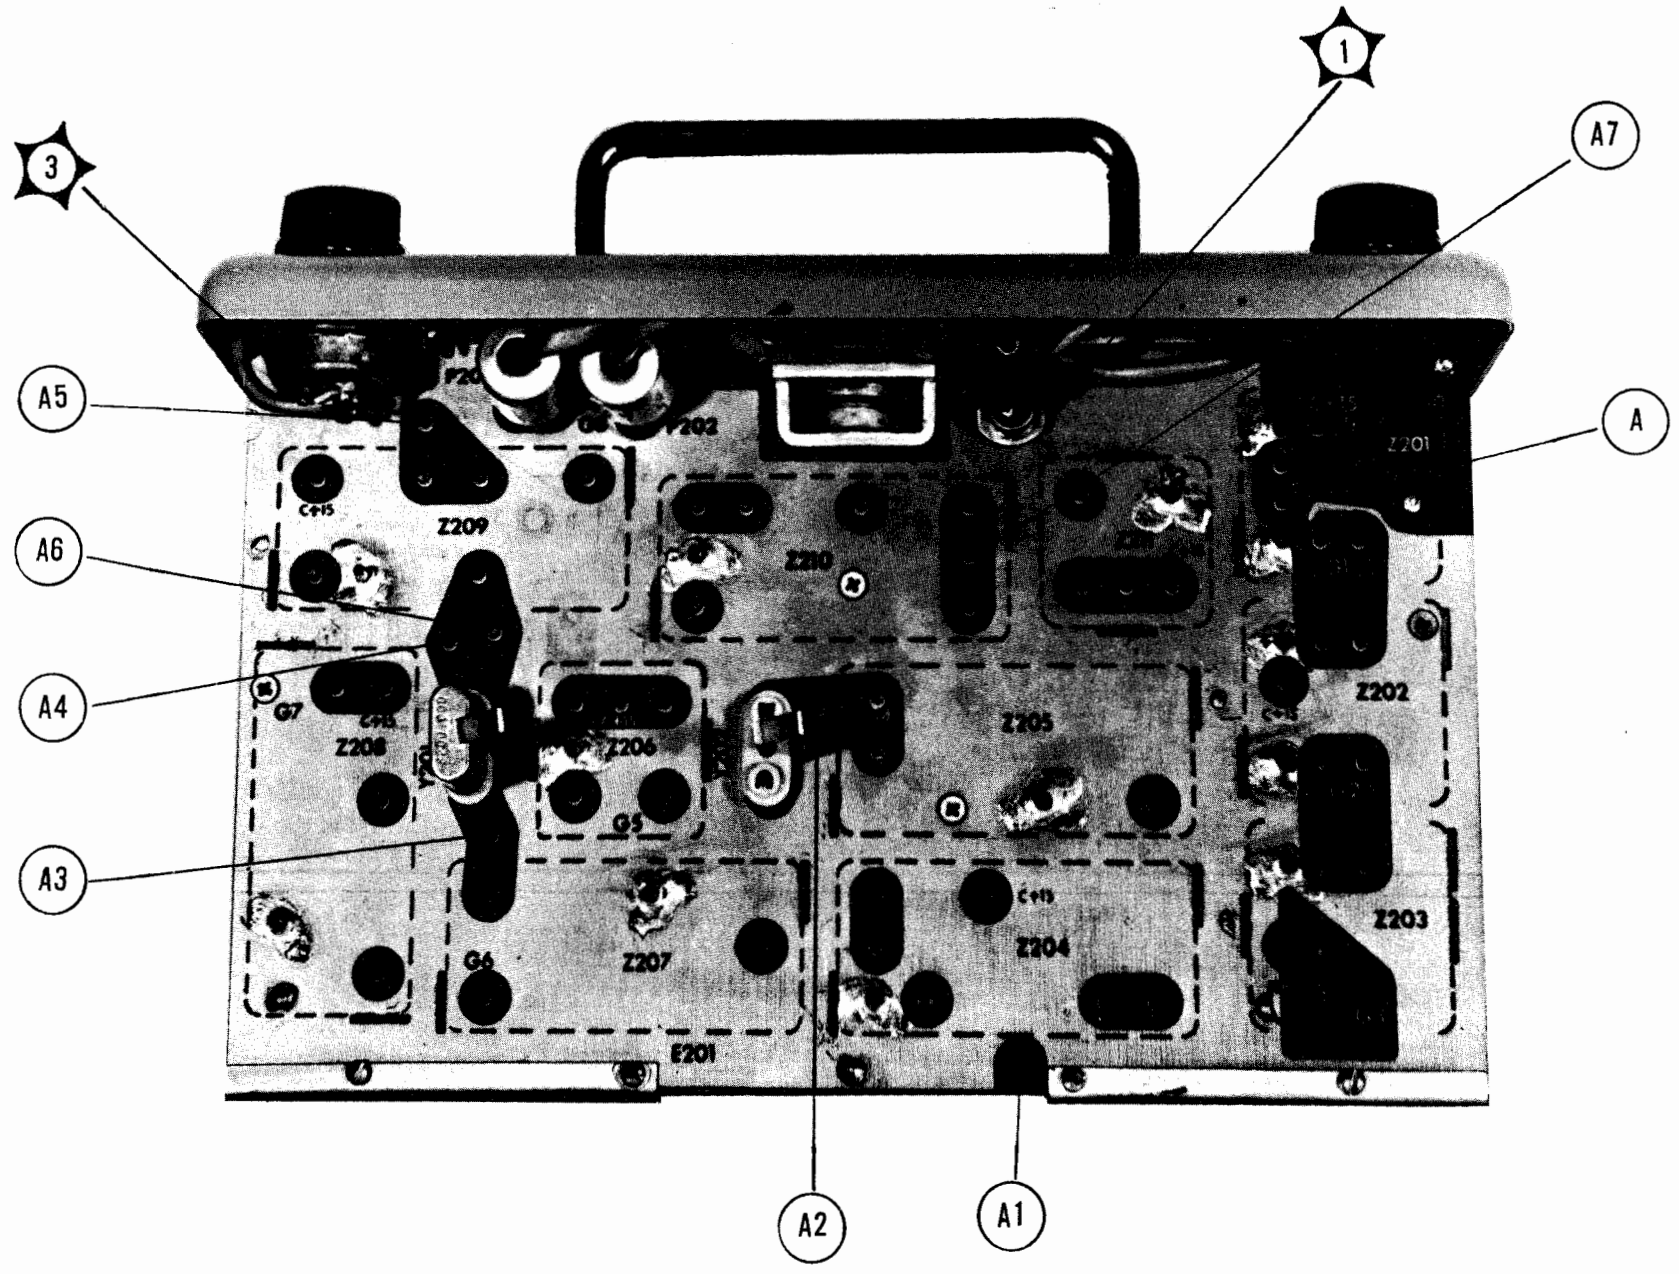

Figure 5-1. Receiver Printed Circuit Board.
e. RECEIVER ALIGNMENT PROCEDURE.-- The step-by-step alignment procedure is given in table 5-2. Keep test leads as short as possible and provide good RF grounds for all test equipment. Check and calibrate test equipment frequently. Unless otherwise specified, use only as much signal generator output voltage as required for a good readable indication on a low meter range. Location of assemblies and test points may be found on figures 5-1 and 5-3.